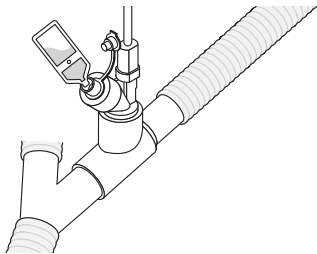

Figure 14. Filling the nebulizer with a pre-filled ampoule
2. Use a pre-filled ampoule or syringe to add medication into the filler port of the nebulizer (Figure 14).